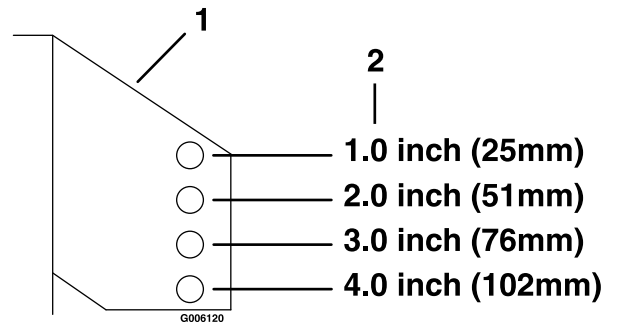

Figure 9
6. Place the rollers in one of the positions shown (Figure 9). Rollers will maintain 3/4 inch (19 mm) clearance to the ground to minimize gouging and roller wear or damage.